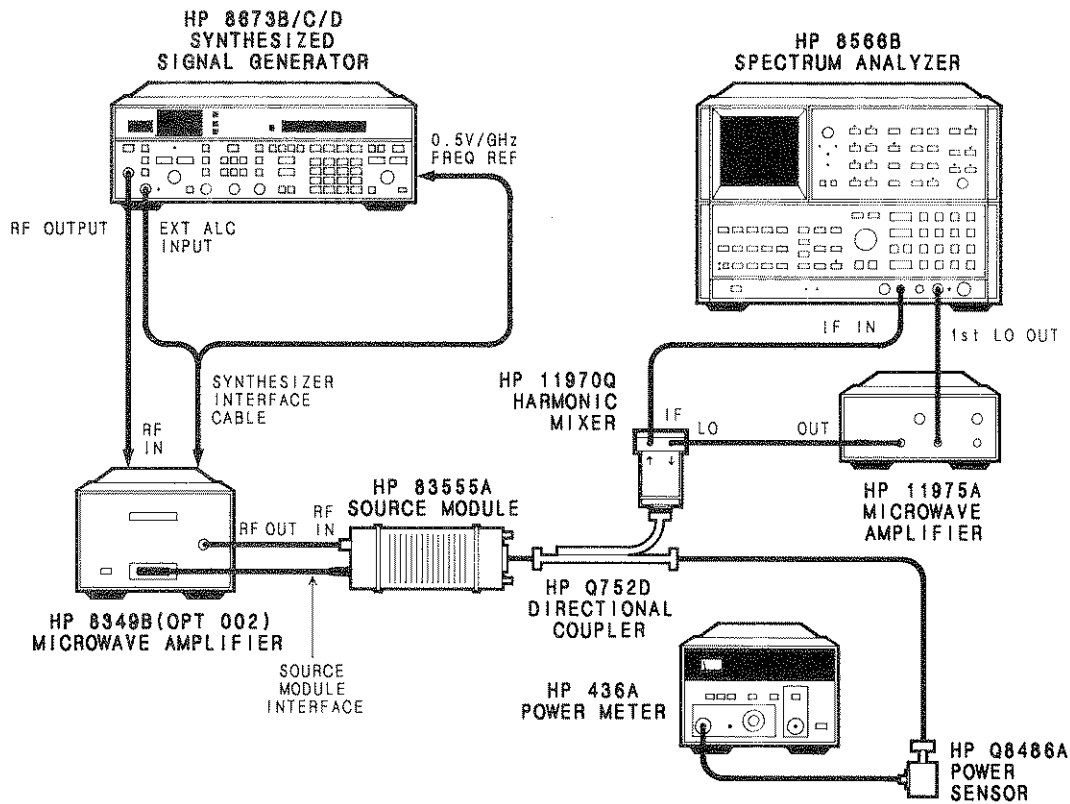

Figure 2-7. Spurious Signals Test Setup
The RF output signal from the millimeter-wave system is tuned from 33.0 to 50.0 GHz using the HP 8673B/D or from 33.0 to 36.9 GHz using the HP 8673C. The system output frequency is displayed on a spectrum analyzer to verify that any harmonic spurious signals are at or below their specified levels. The test configuration in Figure 2-7 uses an external harmonic mixer to extend the frequency range of the spectrum analyzer. When this technique is used, the response is not preselected and multiple signals are displayed that are not necessarily in the frequency band displayed on the spectrum analyzer. Each response must be examined not only for amplitude level but also to determine whether it is a true in-band spurious signal by using the spectrum analyzer's signal identification function
- 1. Connect the equipment as shown in Figure 2-7.
Because the test configuration in Figure 2-7 specifies that the external mixer be connected to the coupled arm of a 20 dB directional coupler, the coupled power must also be taken into account when calculating reference level offset. The new equation is as follows: